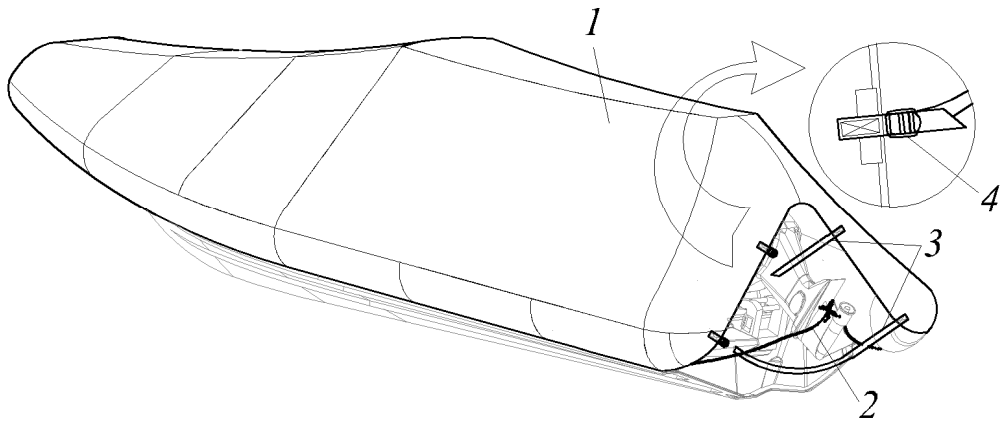

Fig.25
You can use a overall cover for your boat (Fig.25). The overall cover is not available for a boat with a T-Top and for a boat without a stern mast. The motor should be raised with trim. Begin installing the overall cover at the bow of the boat and unfolding it towards the stern. Make sure the overall cover is laid out symmetrically to the boat tube. Tighten the rope (2) evenly on the left and right sides. Tie the rope securely. Secure the upper and lower belts (3) with buckles (4). Contact your BRIG dealer if you need advice.